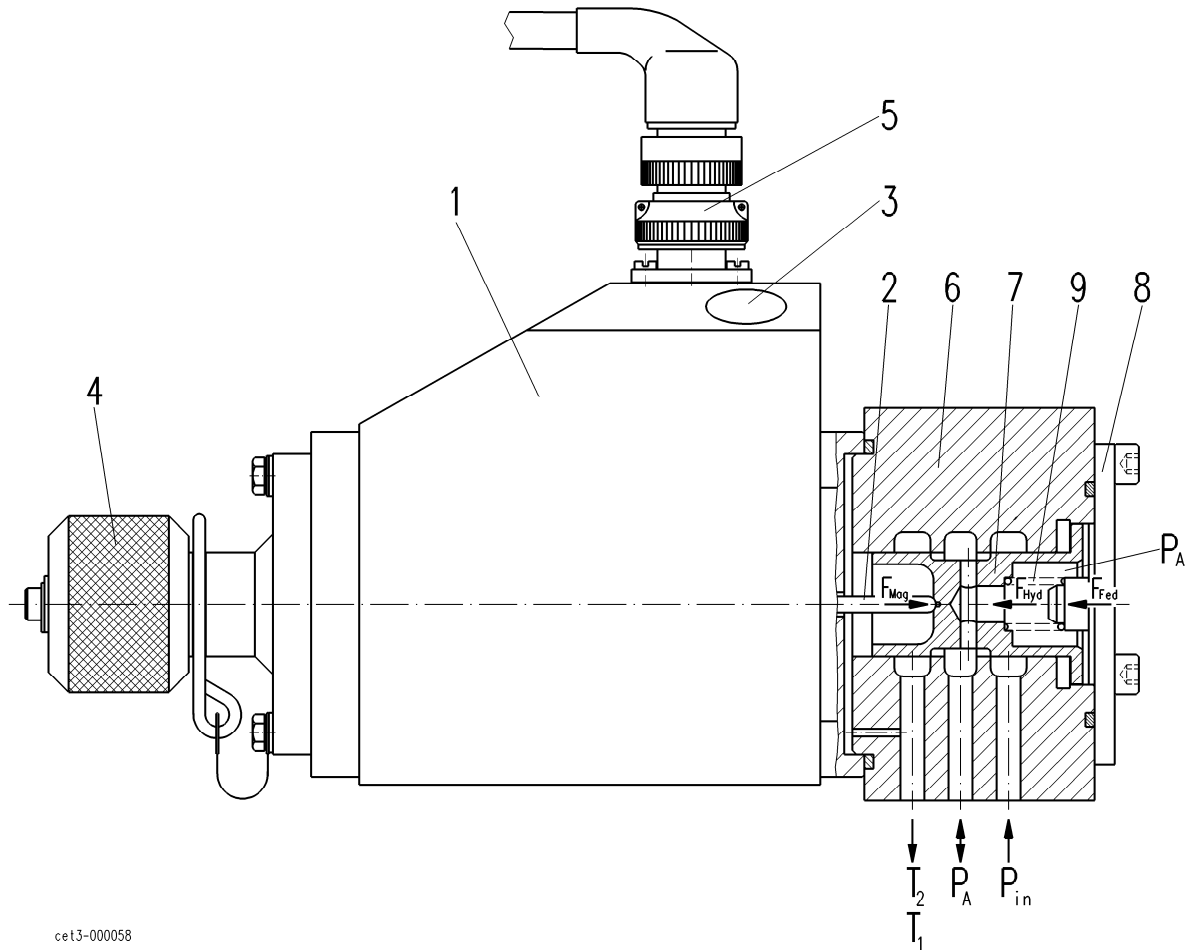

Fig.: 3.1.1
3.2 Operating characteristics (see fig. 3.1.1)
In the case of the two forces being equal, the control piston is positioned in the "hydraulic center" as shown in fig. 3.1.1 and the output signal pressure P_A corresponds to the set signal. In the "hydraulic center" position the control piston performs minimum oscillating movements in the area of the guiding edges $P \rightarrow P_A$ and $P_A \rightarrow T$, in order to keep the output pressure P_A on the value set by F_{Mag} .